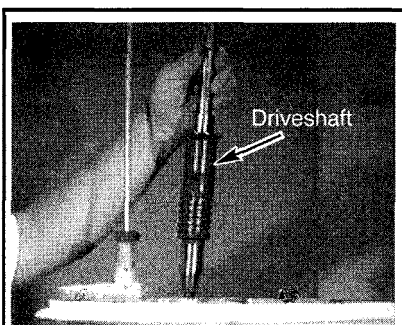

Fig. 105 The driveshaft can be installed with or without first installing the thrust bearing and bearing housing assembly...
- ◆ See Figures 105, 106, 107, 108, 109 and 110